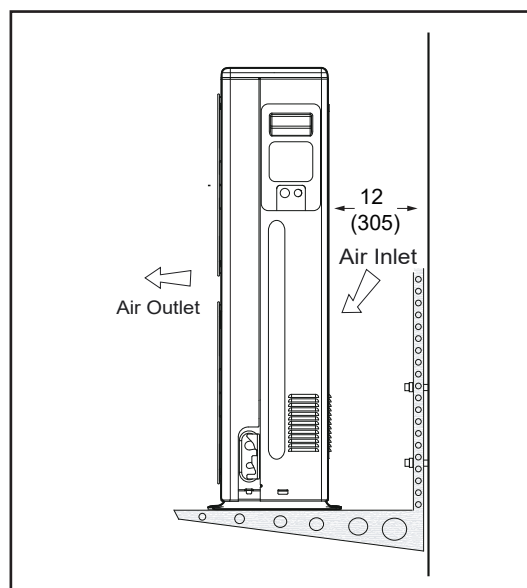

Figure 13-25
-Use lag bolts or equivalent to secure the outdoor unit to the wall-mounted brackets. Figure 13-25.